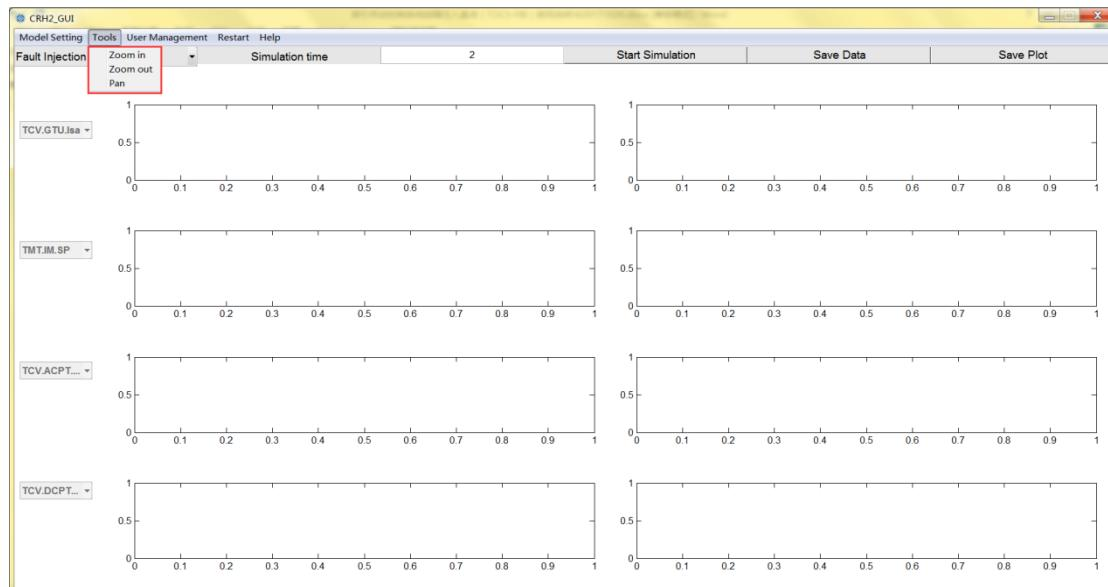
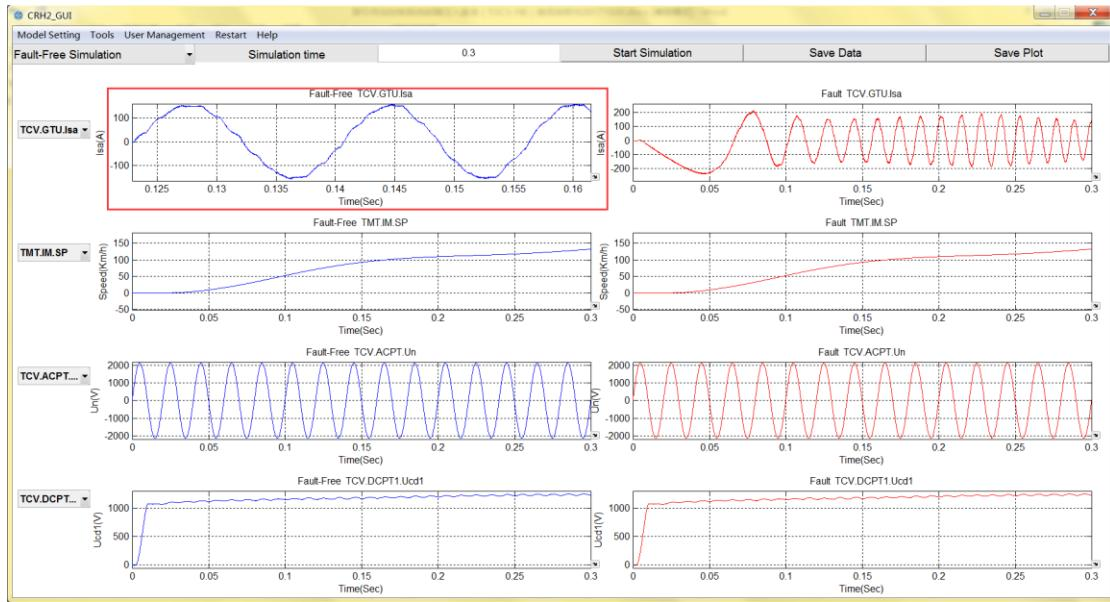

Fig. 15 Tools
Fig. 16 Zoom in
2) Click the ‘Tools’ drop-down menu in the main menu bar, it appears ‘Zoom in’, ‘Zoom out’, and ‘Pan’ option as shown in Fig. 15. The user can select any of the three options, and then place the mouse on the image you want to see, then you can view the zoom in or out or pan simulation results curve, user-friendly data and simulation results for analysis. If you click ‘Zoom in’, the amplifying waveform will appear as shown in the upper left corner of Fig. 16.